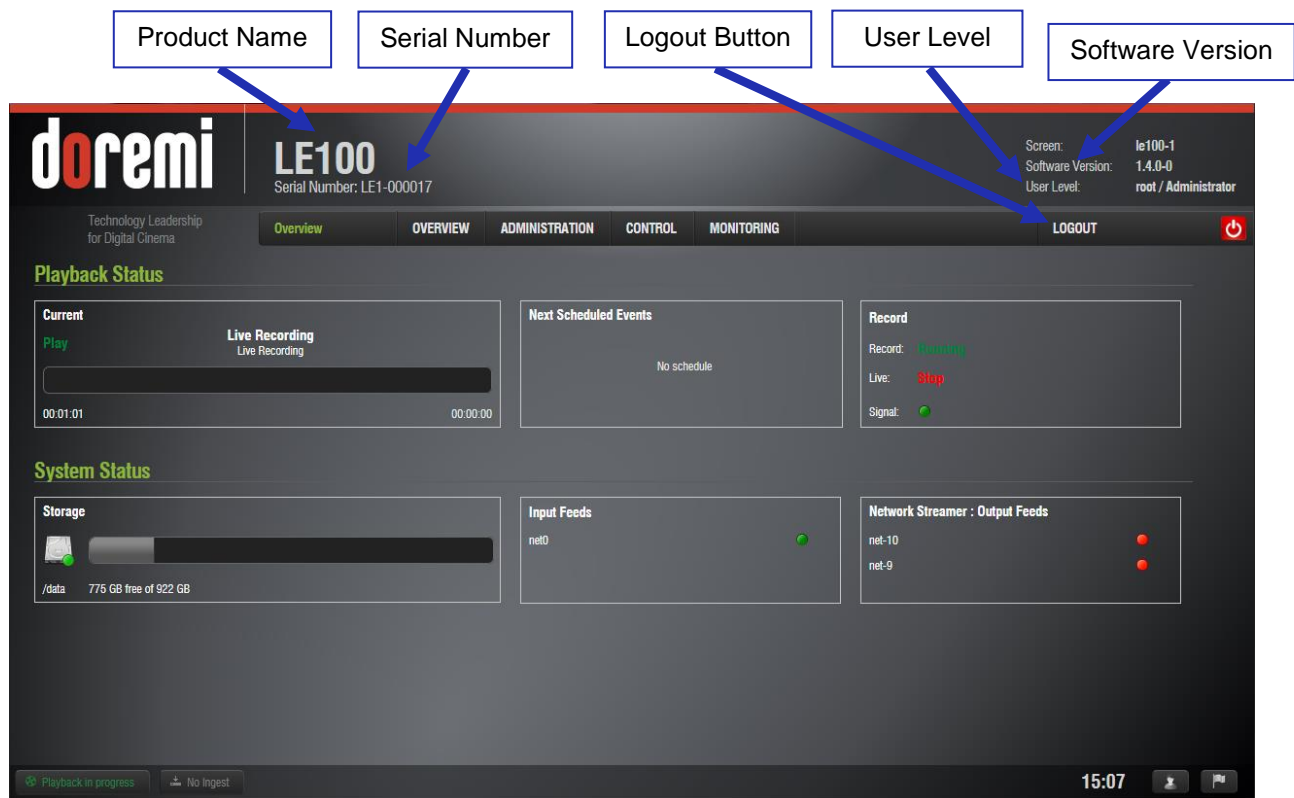

Figure 6: Overview Tab
- Click the Login button when finished. The user will be transferred to the Overview tab (see Figure 6).
The Overview tab will provide information (e.g., Product Name, Serial Number, User Level, and Software Version) as well as the current state of the LE100 (see Figure 6).